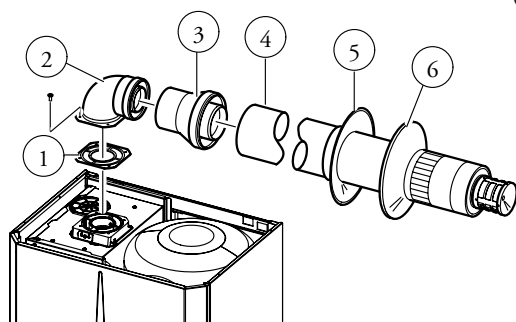

Fig. 1-19 Фиг. 1-19
Horizontal intake/exhaust kits – Ø 80/125. Kit assembly (Fig. 1-19): install the bend with flange (2) on the most internal hole of the boiler inserting the seal (1) and tighten using the screws in the kit. Fit the male end (smooth) of the adapter (3) up to the stop on the female end of the bend (2) (with lip seal).
The kit includes (Fig. 1-19):